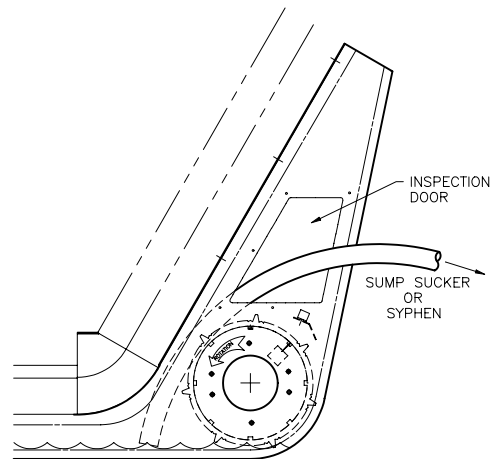

Figure 31: Procedure detail.
1. Remove the clear inspection doors or any other interference around the conveyor (See Figure 31).